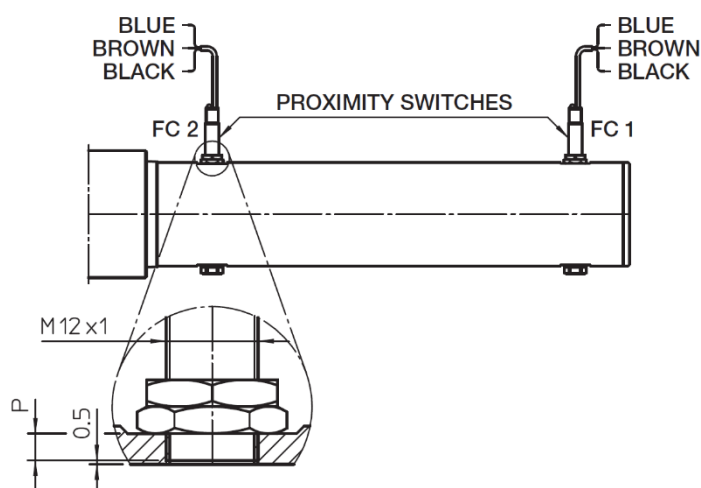

Figure 6.1 – FCP inductive proximity stroke limit switches
- In case it is necessary to restore the correct sensing distance position, please refer to Fig. 6.1.